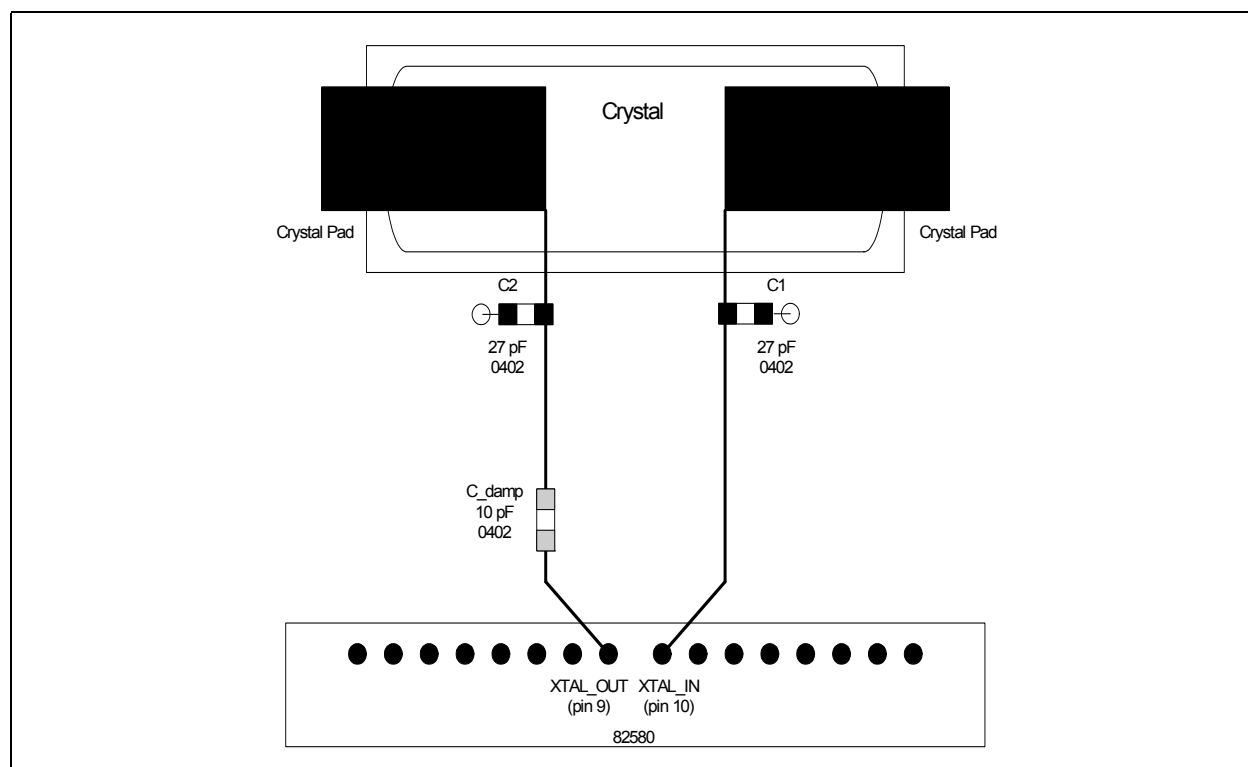

Figure 12-4. Recommended Crystal Placement and Layout
Figure 12-4 shows the recommended placement and layout of an internal oscillator circuit. Note that pin X1 and X2 refers to XTAL1 and XTAL2 in the Ethernet device, respectively. The crystal and the capacitors form a feedback element for the internal inverting amplifier. This combination is called parallel-resonant, because it has positive reactance at the selected frequency. In other words, the crystal behaves like an inductor in a parallel LC circuit. Oscillators with piezoelectric feedback elements are also known as "Pierce" oscillators.
- Place load capacitor solder pad directly in line with circuit trace (see Figure 12-4, point A).
- Route XTAL1 and XTAL2 traces to nearest inside corners of crystal pad (see Figure 12-4, point B).